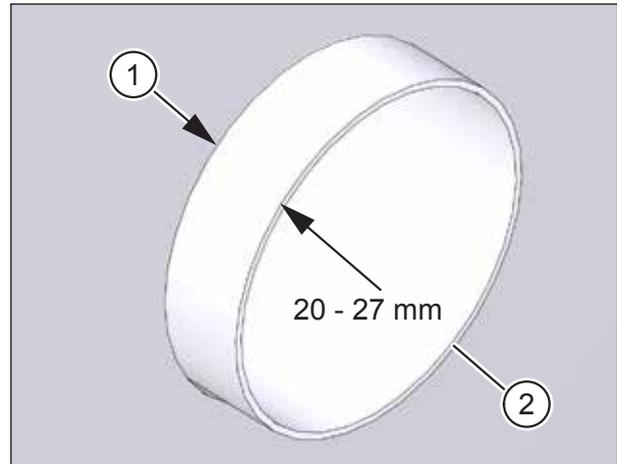

Fig. 12: Checking the ventilation pipes
- ▶ Check that the ventilation pipes protrude 20 - 27 mm beyond the external plaster (see item 1 in Fig. 12).
- ▶ Check that the cut surfaces of the ventilation pipes have been deburred (see item 2 in Fig. 12).